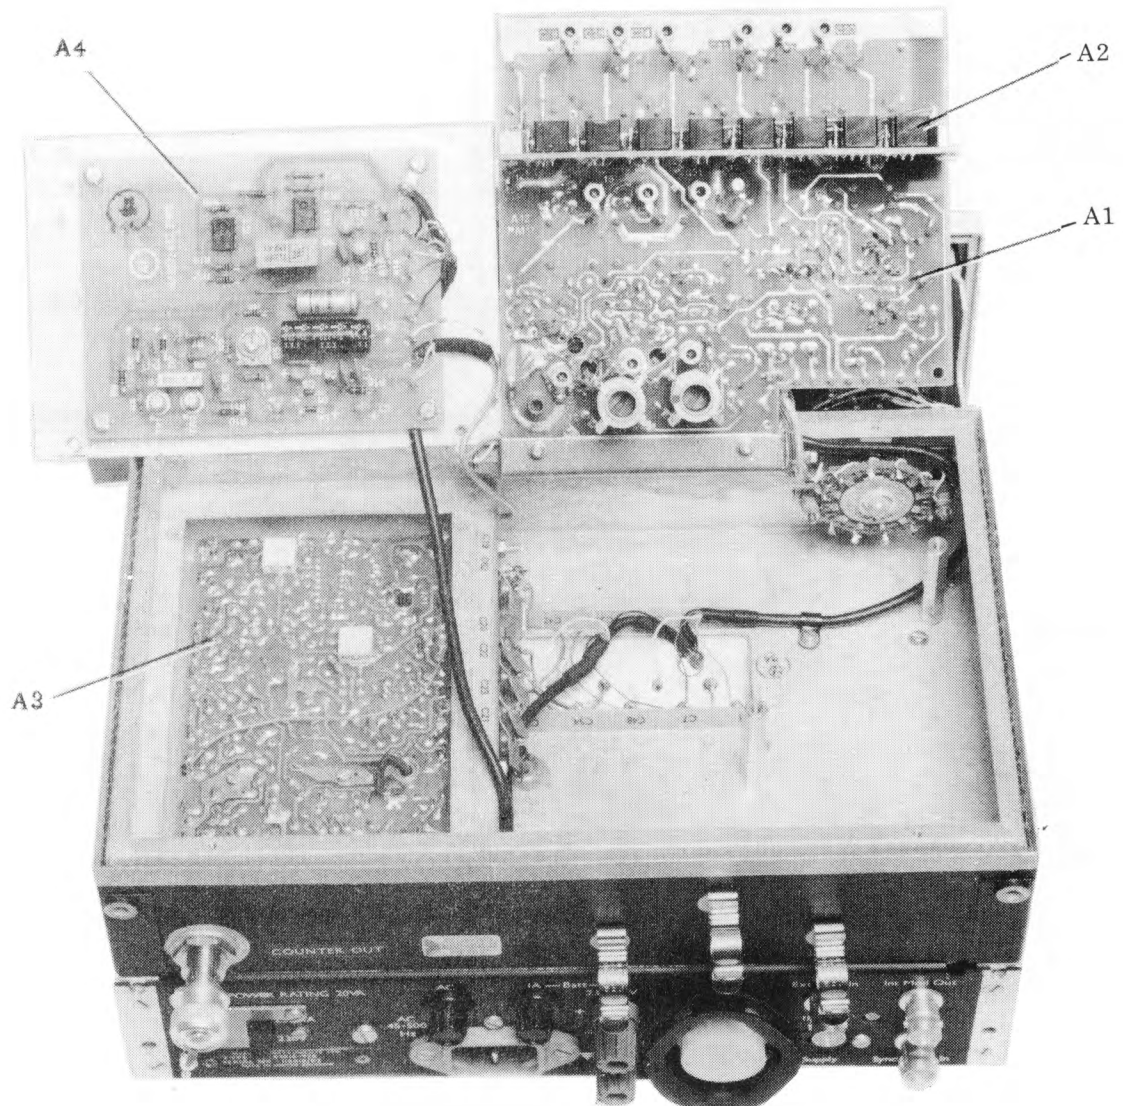

Fig. 1 Top view showing boards A1 to A4
4. A1 and A2 form the r.f. oscillator mother board, which is contained within the r.f. box. To obtain access, remove the cover of the r.f. box by removing the four fixing screws. Unit A1/A2 is hinged to provide access to the underside of A1 and to A2 as shown in Fig. 1. A1 is retained by five M3 screws, one of which is in the middle of the board. The hinge pivot bolts must be loosened before hinging the board out for access.
5. The position of these units is shown in Fig. 1. Access to A3 is obtained by removing the four screws holding the screening plate and then by carefully folding this back with A4 attached. A3 is retained by four M2 screws and the nut of the output socket mounting pillar - this special nut is 2BA across flats. A4 is retained by four M3 screws.
7. These are contained in a separately screened compartment. Inputs and outputs can be accessed through the associated capacitors which are accessible by carefully folding A5 upwards and folding A1 back as shown in Fig. 1.